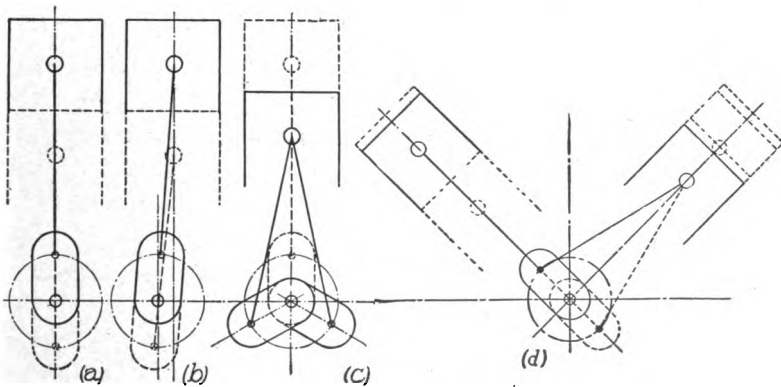
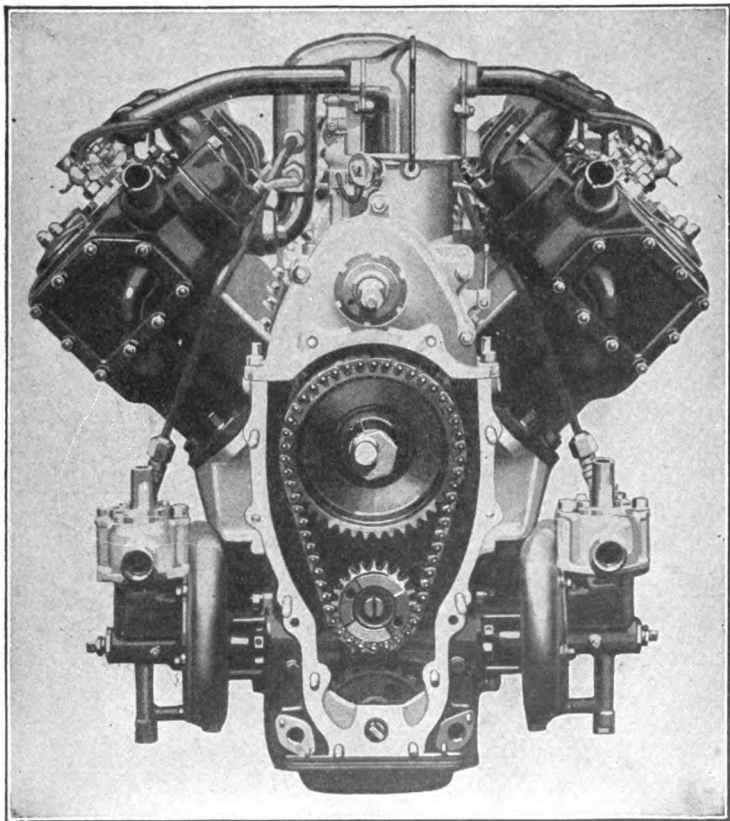

Fig. 38. Diagram of the "Dead Center" Problem
Fig. 39. Front View of Eight-Cylinder V-Type Motor
*Effect of Dead Centers.* In both the two- and four-cylinder motors, the cranks being set 180 degrees apart, each piston is always one complete stroke ahead of the succeeding one. When the cranks of the motor are as shown in Fig. 38 (a) in direct line with the connecting rod, the entire motor is on dead center. Fig. 38 (b) shows the same condition with offset cylinders.
In the six-cylinder motor, the cranks are set at 120 degrees, Fig. 38 (c), and, therefore, we have no condition when the entire motor is on dead center. It is impossible to have more than two of the cranks on dead center at once. Hence, there is never a time in the six-cylinder cycle when the motor does not produce power.
In the eight-cylinder V-type motor, Fig. 39, the cranks are set 180 degrees apart, as in the four-cylinder, but the cylinders are set at 90 degrees, 45 each side of a vertical, as shown in Fig. 38 (d). The connection of the side by side cylinders of each pair of fours to a common crank pin—the two number one cylinders, for instance, working on the first pin, the number twos on the second, etc.—eliminates all dead centers. This is one advantage of the V-type over the straight-line type for the latter has a dead-center cylinder.
on each side of the vertical, the only difference from Fig. 38 (d) being in the angle. The crank-pin attachment in the twelve is similar to the eight, the first two cylinders working on the first crank pin, the second two on the second pin, and so on. Obviously the form of the crank and the setting of the cylinders at an angle eliminate all dead centers.